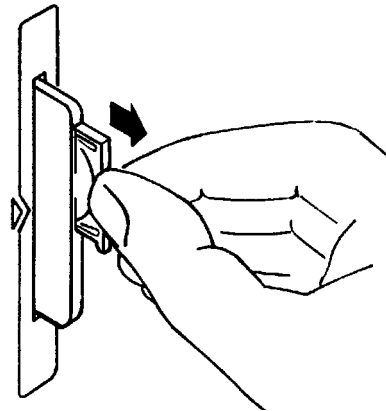

Figure 11 **Replacing the Memory Card's Battery**
5. Hold the memory card in the slot with one hand and pull the battery holder out with your other hand. (See figure 11 .)